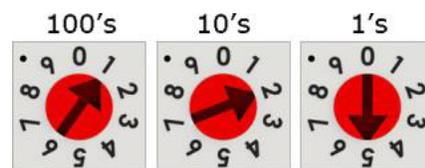

Fig. 13 – Rotary Switches – Set to 125 Value
The rotary switch setting determine the controller number in the i-Vu® interface. Figure 13 provides an example where the rotary switches are set to generate the number 125.
IMPORTANT: Rotary switch settings (see Fig. 13) are used to determine the following items in your system, so you should plan carefully before setting the switches.
1. Set the controller's three rotary switches to a unique address on the network. Set the left rotary switch to the hundreds digit, the middle switch to the tens digit, and the right switch to the ones digit. Refer to Fig. 13.